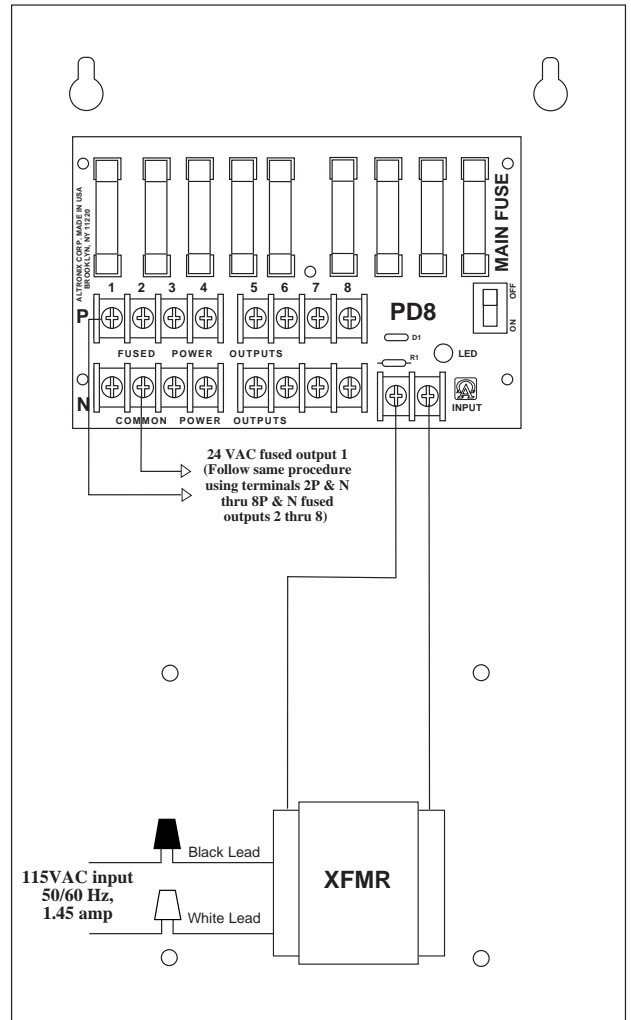

Fig. 1
- Eight (8) 24VAC individual fused outputs.
- Output fuses are rated at 3.5 amps / 250VAC (Fig. 1).
- Main fuses are rated at 10 amps / 250VAC (Fig. 1).
2. Slide switch SW1 (Fig. 1) to OFF position.
3. Connect the AC (115VAC 50/60 Hz) to the black and white flying leads of the transformer (Fig. 1).
4. Connect each camera to terminal pairs 1 to 8, marked [1P-1N thru 8P - 8N] (Fig. 1).
5. Slide switch SW1 (Fig. 1) to ON position.